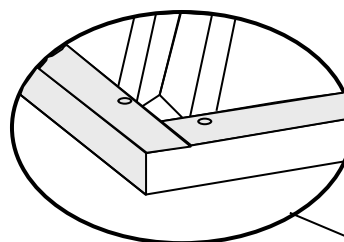

fig.4
- Ensure that the top and bottom ends of the braces are under the door flashings as shown in fig.4. and opposite ends of the braces overlap in the middle.